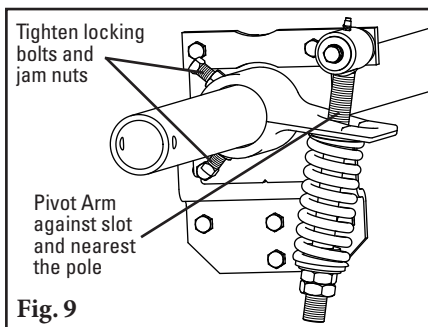

Fig. 9
14. Tension the blades to the belt. Rotate the blades until they contact the belt. While holding the spring bushing flat on the torque arm, rotate the torque arm until the pivot arm is against the end of the slot nearest the pole. Tighten the locking bolts and jam nuts on the torque arm (Fig. 9). **NOTE:** The torque arm should be up against the mounting plate.